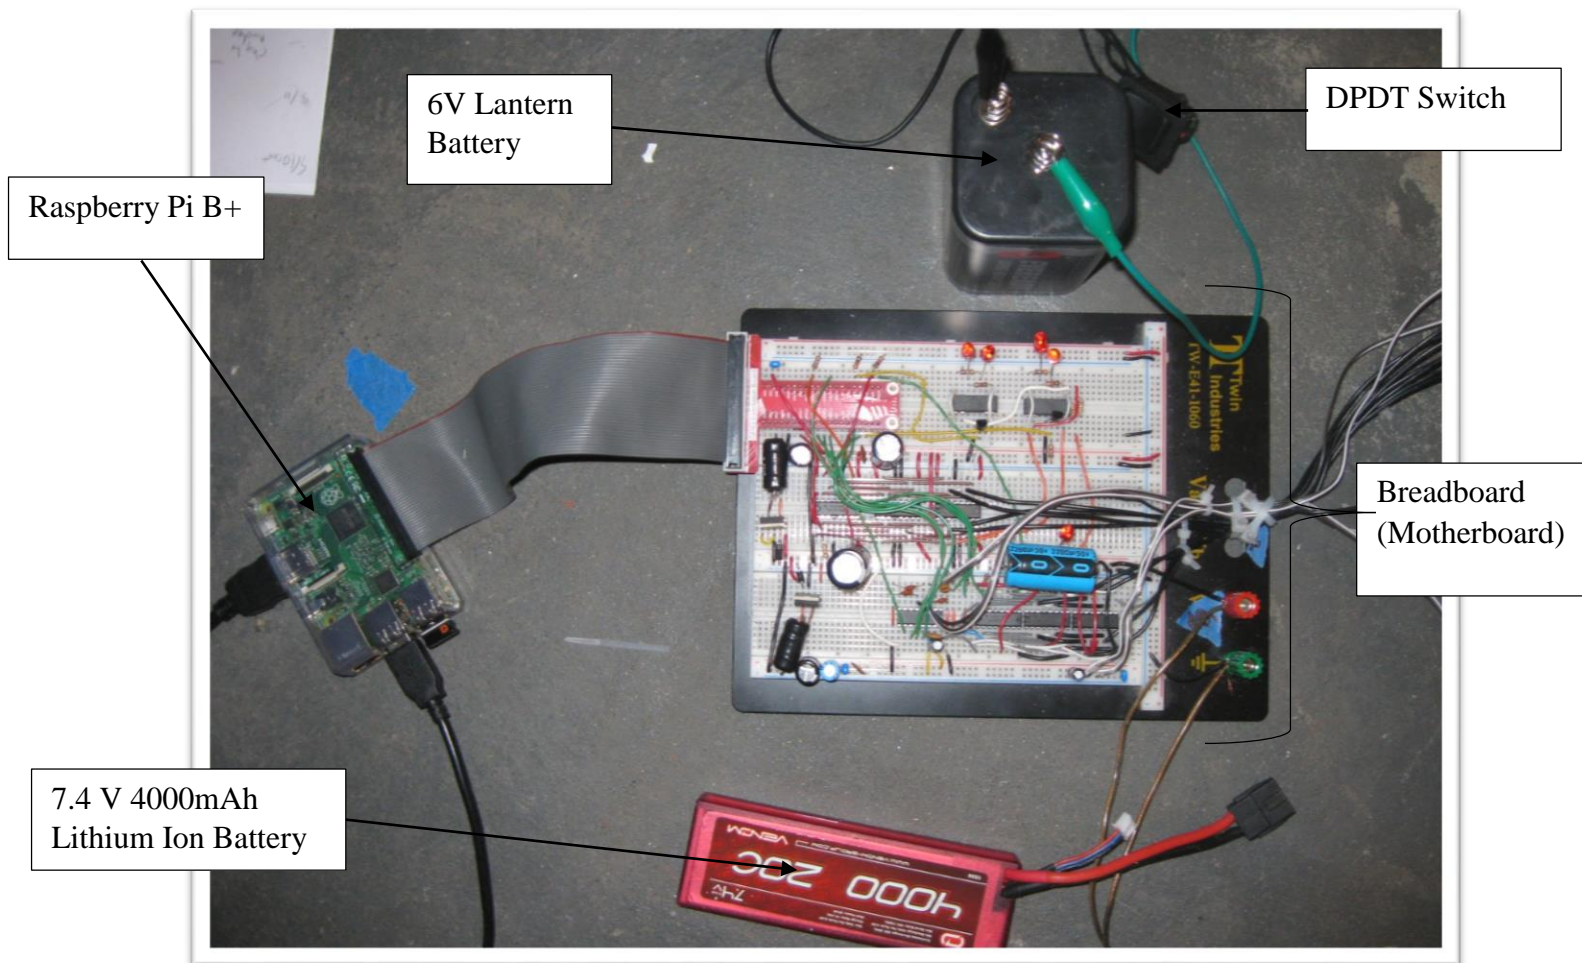
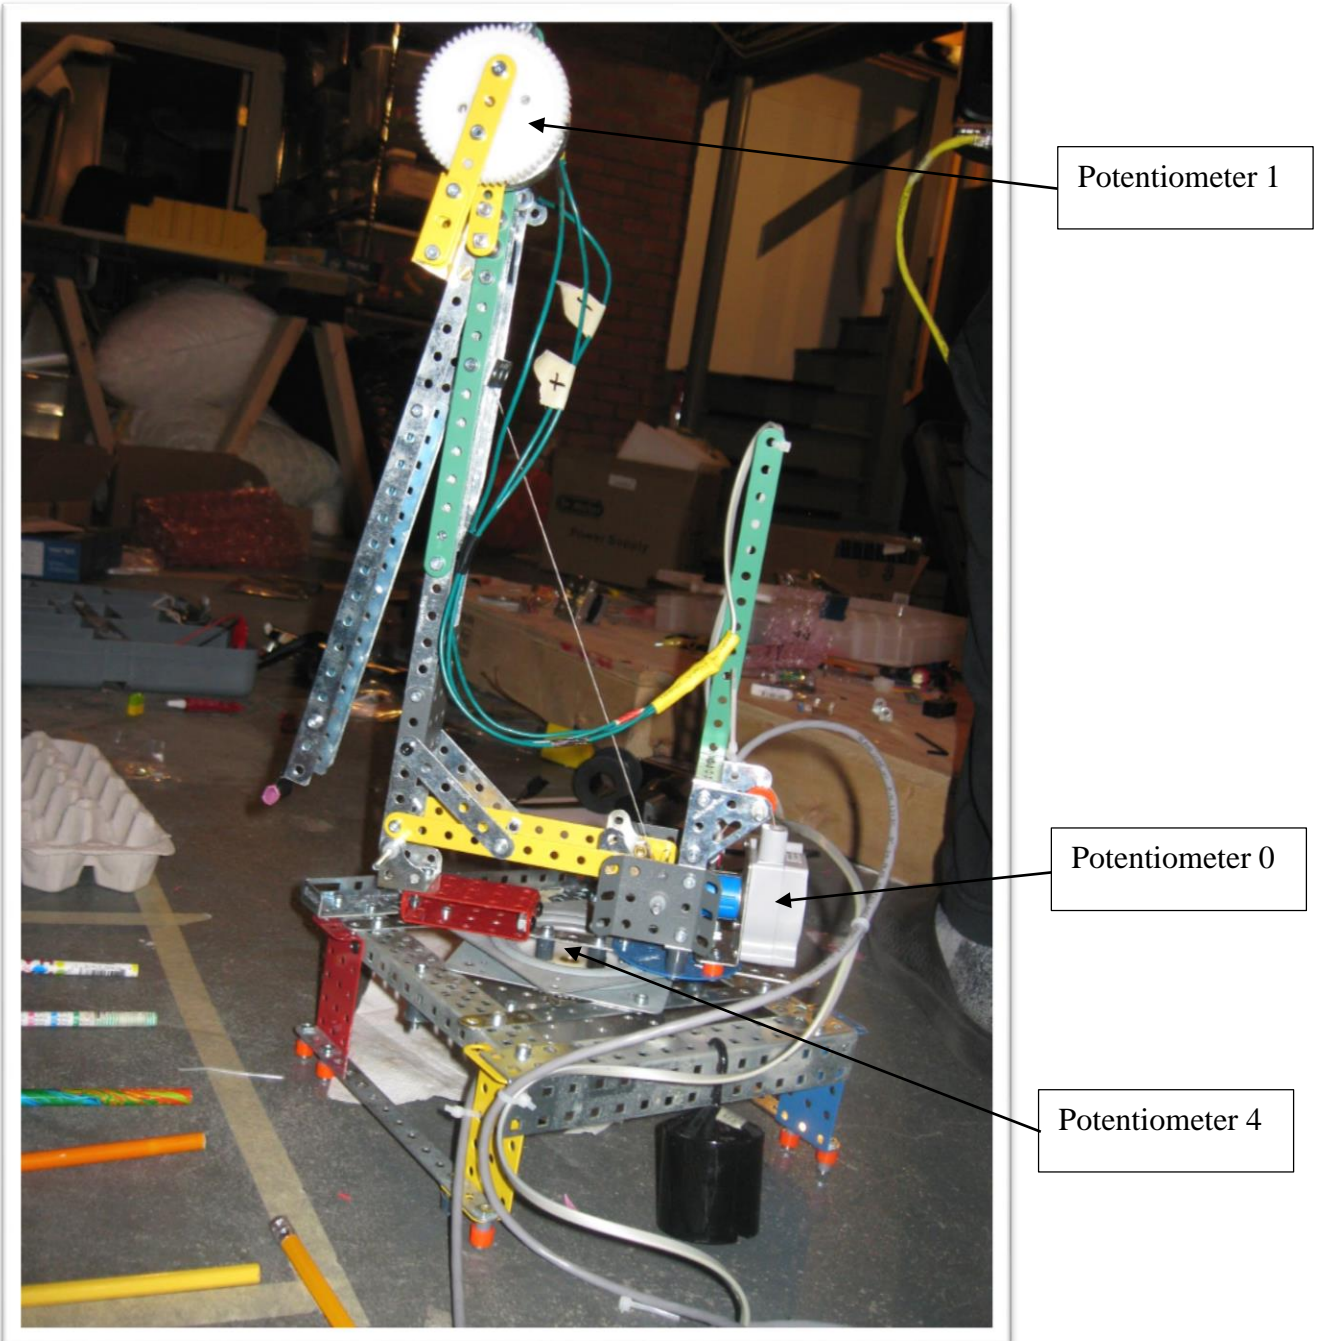
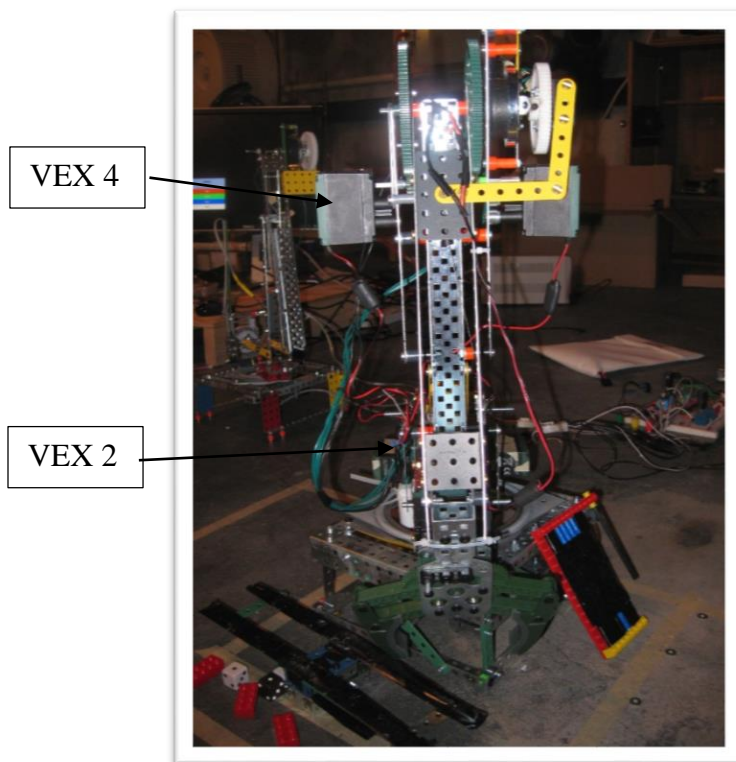
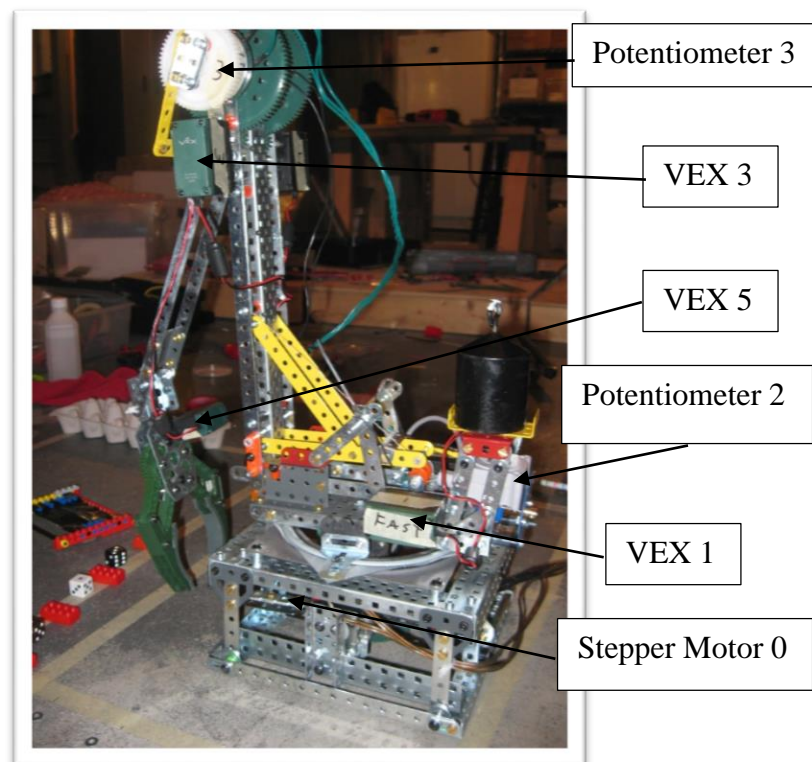

Figure 1 - the Motherboard
Figure 2 - the Master Arm
Figure 3 – the Slave Arm (front)
Figure 4 – The Slave Arm (left)
(Figure 1) The two energy sources are a 4000mAh, 7.4V Li-ion battery (red) and a 6V lantern battery (black). The Raspberry Pi and motherboard setup will read the potentiometers on both arms and, based on their positions, control the speed of the VEX motors with multiple PWM signals and the position of the stepper motor with timed pulses (simple proportional-control). Note the DPDT switch in the top left of the picture (small black blob with wires attached). The DPDT switch, along with the 6V battery, control the claw (VEX motor 5 (**Figure 4**)) independent of the breadboard (motherboard) and potentiometers (**Figure 2**, **Figure 3**, and **Figure 4**).
(**Figure 2**) Potentiometer (0) is on the master shoulder (grey box on the rotating base with a grey wire). Potentiometer (1) is on the master elbow (large, white gear with green wires attached on the joint itself). Potentiometer (4) is on the master base (white round piece visible through center of turntable).
Potentiometer (2) is located on the slave shoulder (grey box under the large black weights on the back of the arm with a grey wire protruding) in **Figure 4**. Potentiometer (3) is located on the elbow (white gear and black box on elbow joint with green wires) in **Figure 4**.
The stepper motor (**0**) (grey and black rectangular prism driving the base) is partly visible on left bottom of the slave arm in **Figure 4**.
The VEX motor 393's (**1-5**) (2 per joint, numbered on diagram and one on the claw) are (**2, 4**) in **Figure 3** and (**1, 3, 5**) in **Figure 4**.